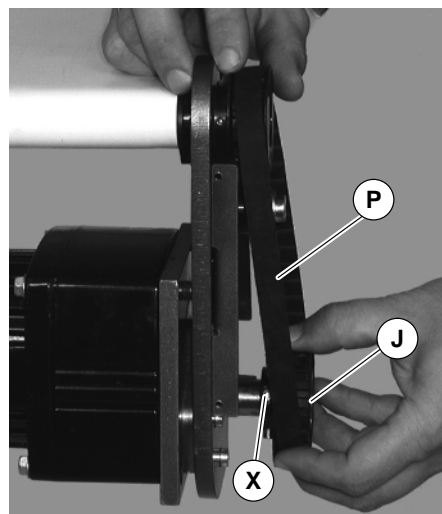

Figure 14
NOTE: If drive pulley (J of Figure 14) is replaced, wrap timing belt around drive pulley and complete step 3.
6. Loosen drive pulley set screws (X of Figure 14). Remove drive pulley (J) and timing belt (P).
NOTE: Drive pulley (J of Figure 14) is removed. Wrap timing belt around drive pulley and complete step 10.